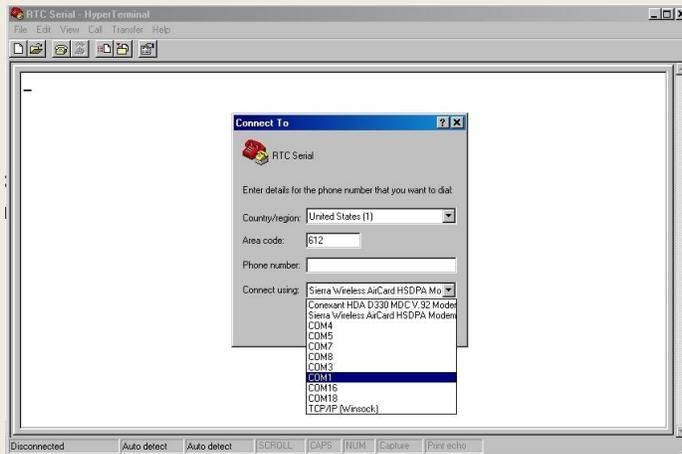

Fig. 9
3. Hit the OK button and you will see the screen below (Fig. 9). Select the COM port you will be using. If you have a typical notebook with a serial port, it will be COM1. If you are using a USB to serial converter, see Appendix D to find the COM port.